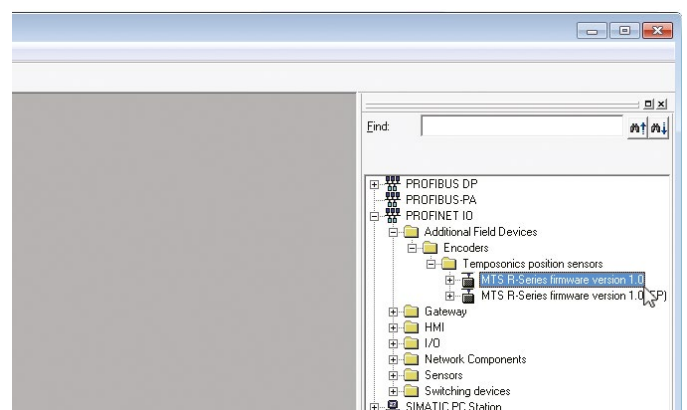

Fig. 62: Select MTS communication protocol (source: Siemens)
1. Select the MTS communication protocol from the directory displayed on the right (Fig. 62).